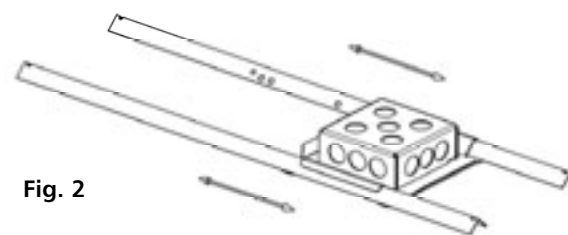

Fig. 2
- Fig. 2, POSITION rails and baseplate across the 24" width of the ceiling tile and determine desired location of the device. The baseplate can be moved on the rails a total of 17-15/16" of travel. Insure that the baseplate does not extend beyond the rails or the ceiling tile.